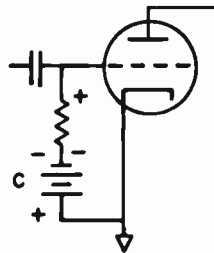

FIG. 13-7. GRID LEAK AND BATTERY BIAS.
**GRID-LEAK AND BATTERY BIAS.** Another method of obtaining bias for an RF amplifier is shown in Fig. 13-7. This method is a combination of grid-leak and battery bias. Again, most of the bias voltage is obtained from the voltage drop across the grid leak resistor. The battery is connected in the circuit simply as a means of keeping some bias voltage on the tube in the event that the grid-leak bias drops to zero. The transmitting tube is thus protected against damage due to excessive plate current flow.